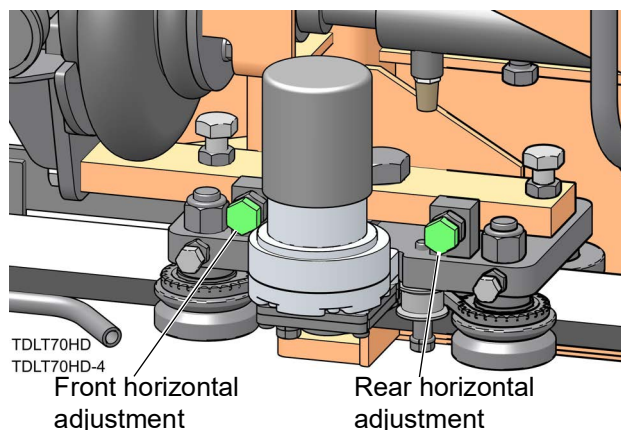

FIG. 7-4
8. Loosen the horizontal adjustment bolt jam nuts. See FIG. 7-4.